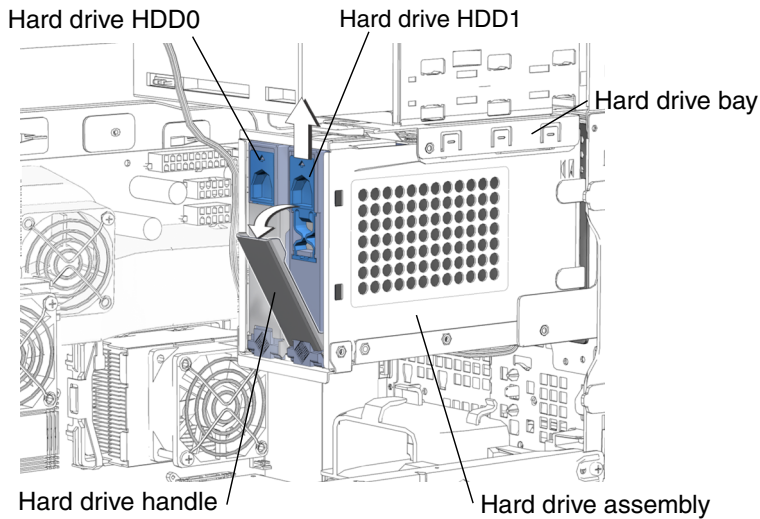

FIGURE 12-2 Releasing the Hard Drive From the Hard Drive Assembly
The hard drive assembly is installed in the hard drive bay (FIGURE 12-2). The hard drives are labeled HDD0 and HDD1, the inner hard drive (HDD0) being the boot drive.
2. Locate the hard drive to be removed (FIGURE 12-2).